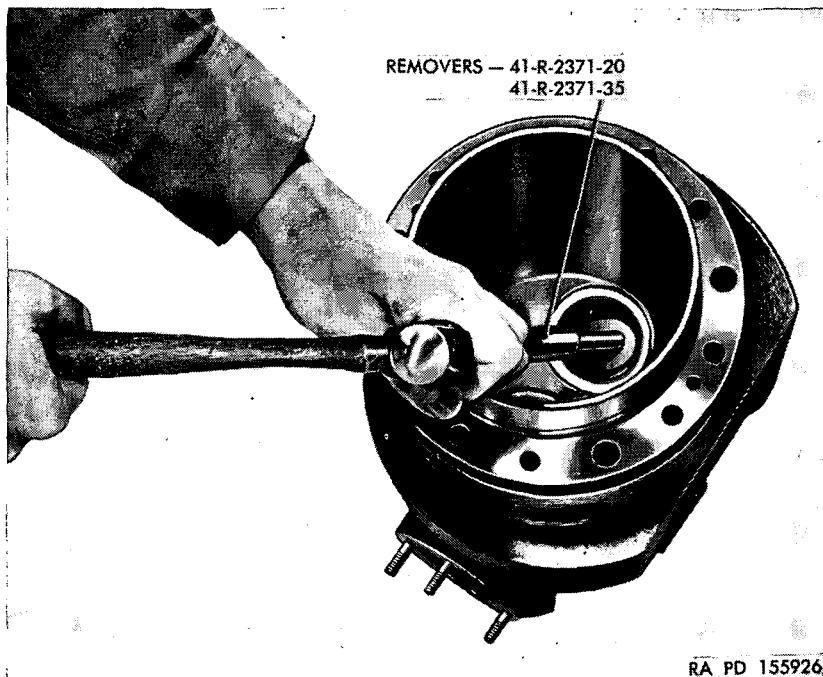

Figure 56. Removing valve guide.
(6) *Valve guides.* Inspect valve guides for looseness, cracks, galling, erosion, or scuffing. Remove any carbon deposit in the valve guide bores with crocus cloth and dry-cleaning solvent or volatile mineral spirits. Check bores to the limits specified in repair and rebuild standards (par. 151). Replace if necessary (figs. 56 and 57) (c below).
- (1) *Cylinder barrel fins.* Carefully straighten bent fins on the barrel as close as possible to the original spacing. These fins are soft and should not be destroyed. Replace cylinder if loss of total fin area is more than 1 percent.
- (2) *Cylinder head fins.* Replace cylinders with broken head fins if defect is more than half the fin depth or more than two inches long. A cylinder can be used if it has not more than three acceptable defects. No two defects can be on adjacent fins. Defective areas shall be smoothly blended to eliminate sharp corners. The depth of any blended fin must not be less than 50 percent of its original depth.
- (3) *Replace valve guides.*
- (a) To remove a valve guide, insert valve guide remover 41-R-2371-35 (for intake valve guides) or valve guide remover 41-R-2371-20 (for exhaust valve guides) into the guide (fig. 56). Support the cylinder so that fins will not be damaged. Drive the guide out of the cylinder head.